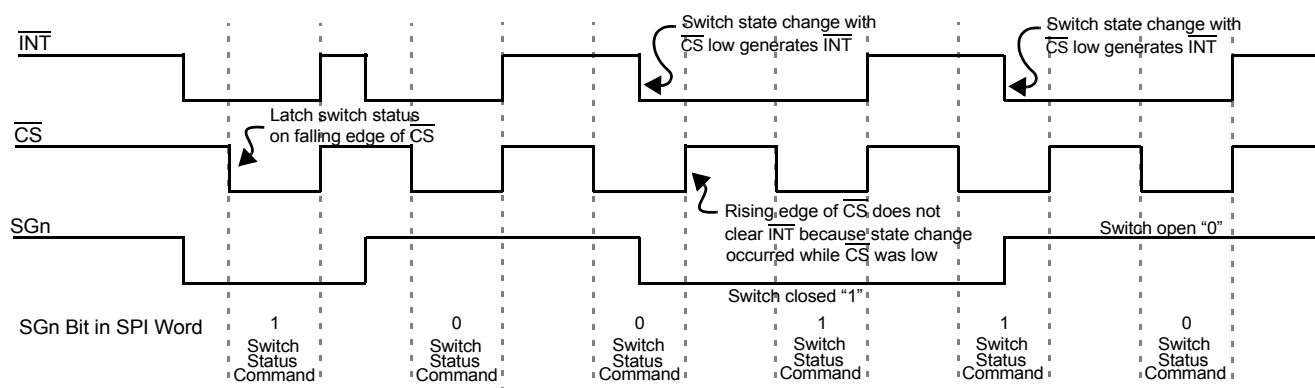

Figure 6. Normal Mode Interrupt Operation
1. $\overline{\text{INT}}$ terminal is reset to logic [1], except when additional switch changes occur during $\overline{\text{CS}}$ low (see Figure 6, page 10).
Figure 6, page 10, is a graphical description of the device operation in Normal mode. Switch states are latched into the input register on the falling edge of $\overline{\text{CS}}$. The $\overline{\text{INT}}$ to the MCU is cleared on the rising edge of $\overline{\text{CS}}$. However, $\overline{\text{INT}}$ will not clear on rising edge of $\overline{\text{CS}}$ if a switch has closed during SPI communication ($\overline{\text{CS}}$ low). This prevents switch states from being missed by the MCU.